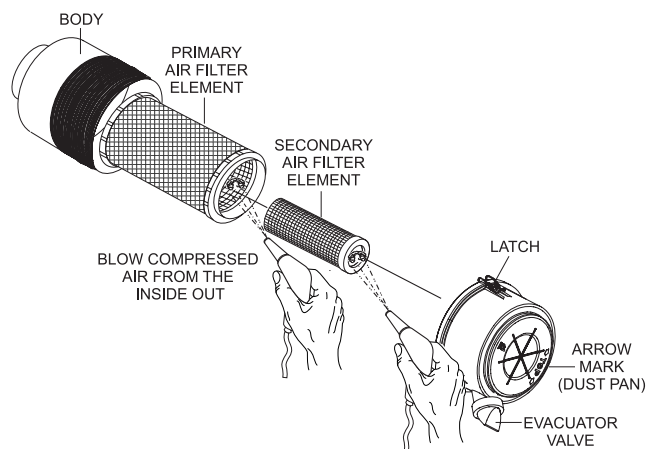

Figure 56. Air Cleaner
Every 250 hours: Remove the air cleaner element (Figure 56) and clean the heavy-duty paper element with a light spray of compressed air. Replace the air cleaner as needed.
1. Release the latches (Figure 56) that secure the cover to the air cleaner body.
6. To clean the primary element (paper air filter) as referenced in Figure 56, tap the filter element several times on a hard surface to remove dirt, or blow compressed air, not to exceed 30 psi (207 kPa, 2.1 kgf/cm²), through the filter element from the inside out.